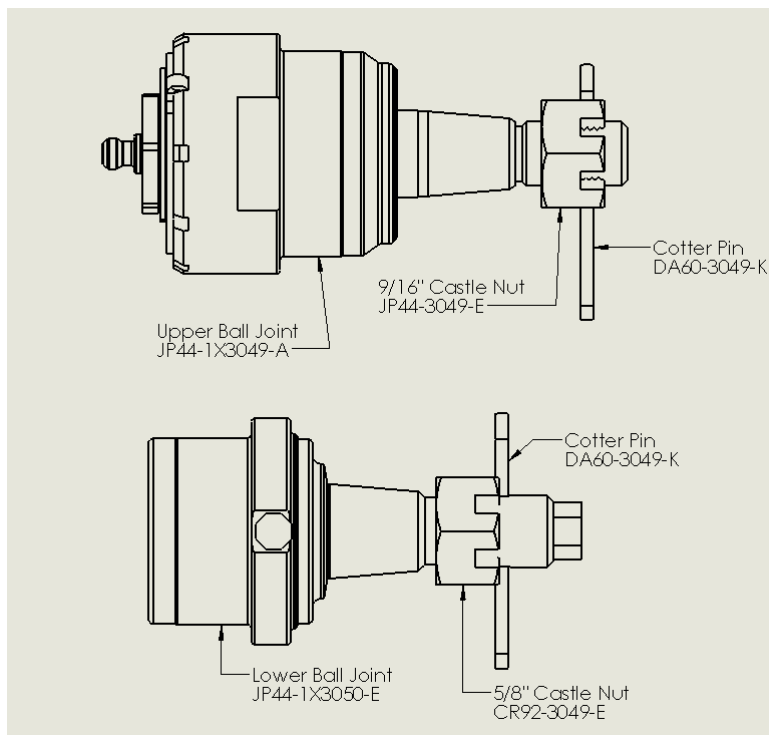

Figure 8, Bill Of Materials
1. As stated above only perform the installation if you are a fully equipped mechanic. Using the attached bill of materials, verify the kit is complete (Fig 8). You may need anywhere between 4 to 10 hours depending on your experience, so allow plenty of time. If you are performing the installation at home, Dynatrac strongly recommends using the Miller ball joint kit in conjunction with the Dynatrac Installation kit, part number JP44-1X3050-B.